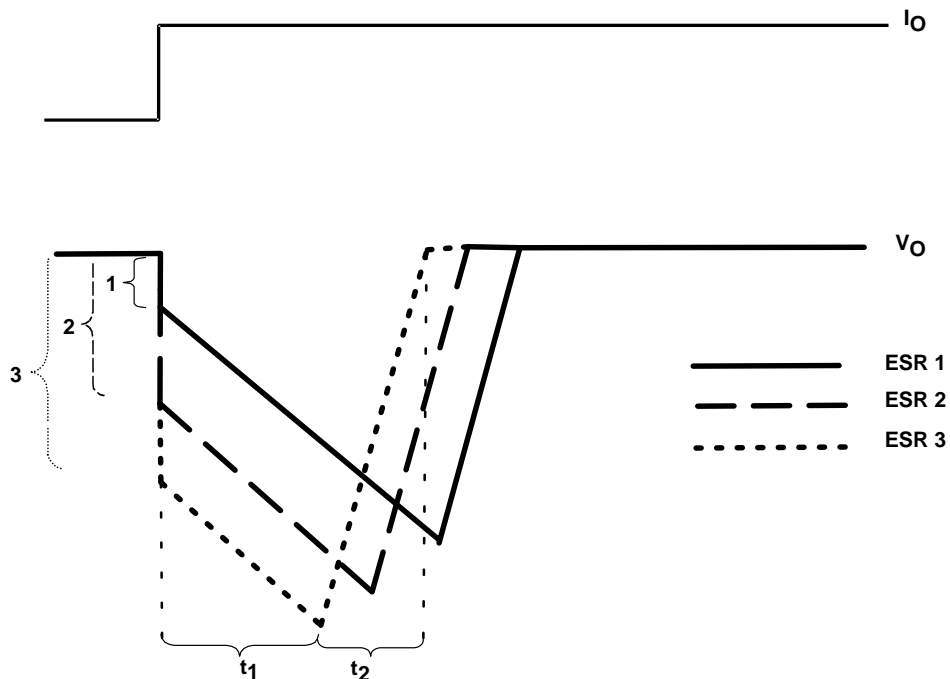

Figure 23. Correlation of Different ESRs and Their Influence to the Regulation of  $V_O$  at a Load Step From Low-to-High Output Current
- The LDO is not able to supply the sudden current need due to its response time ( $t_1$  in Figure 24). Therefore, capacitor  $C_O$  provides the current for the new load condition (dashed arrow).  $C_O$  now acts like a battery with an internal resistance, ESR. Depending on the current demand at the output, a voltage drop will occur at  $R_{ESR}$ . This voltage is shown as  $V_{ESR}$  in Figure 23.